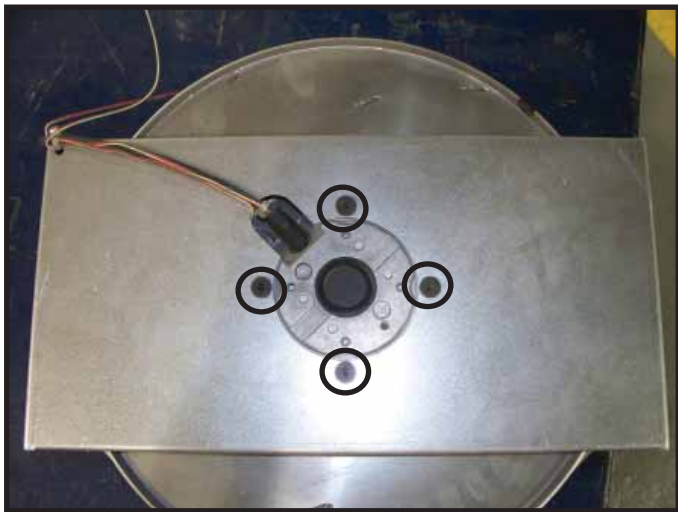

Figure 3.10. Remove Blower from Mounting Bracket
- Turn assembly over and remove four screws to release the blower from the mounting bracket. See Figure 3.10.